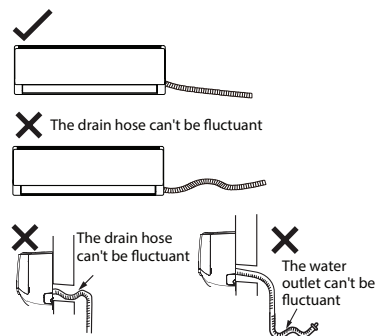

Fig.26
2. Slant the drain hose slightly downwards. The drain hose can't be curved, raised and fluctuant, etc. (As show in Fig.26)